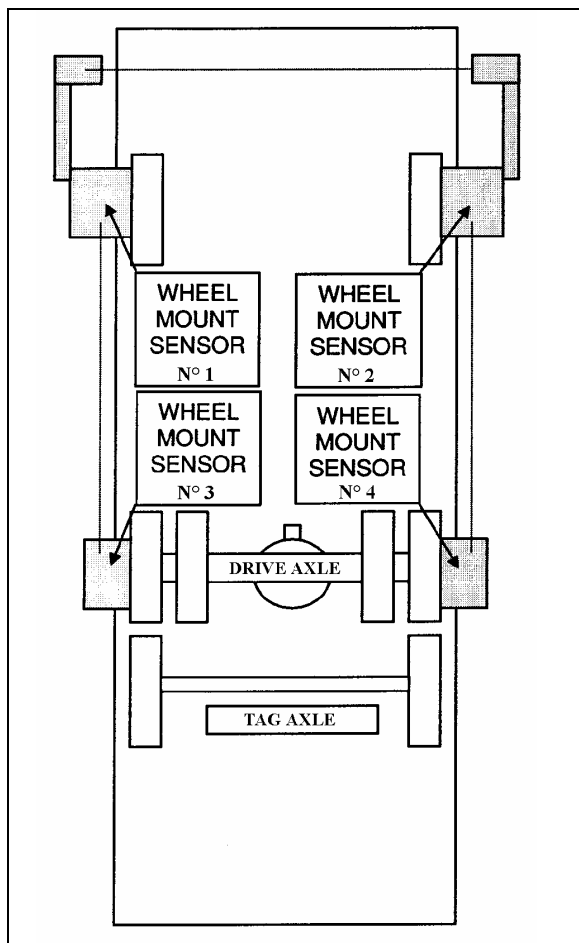

FIGURE 7: DRIVE AXLE ALIGNMENT
- o With the system installed as for front end alignment (fig.7), adjust drive axle according to specifications' chart below.
3. Install wheel mount sensors on front and drive axle wheels (fig. 7). Adjust front wheels according to paragraph: "Front End Alignment" in Section 16: Suspension.
See reference numbers on wheel mount sensors (fig.7).
Reinstall wheel mount sensors as shown in figure 7. For example, the sensor from the right side of the front wheel is mounted on the right side of the tag axle. For corresponding wheel mount sensor reference numbers, refer to figure 7.